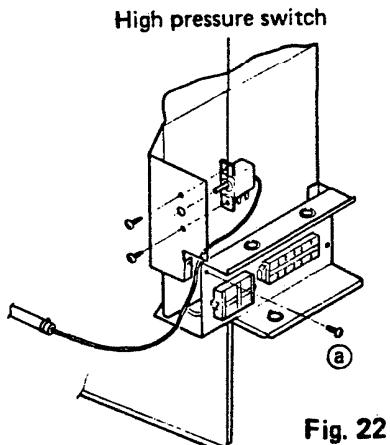

Fig. 22
2) Loosen one screw **a** and remove the high pressure switch from the electrical component box carefully. Fig. 22